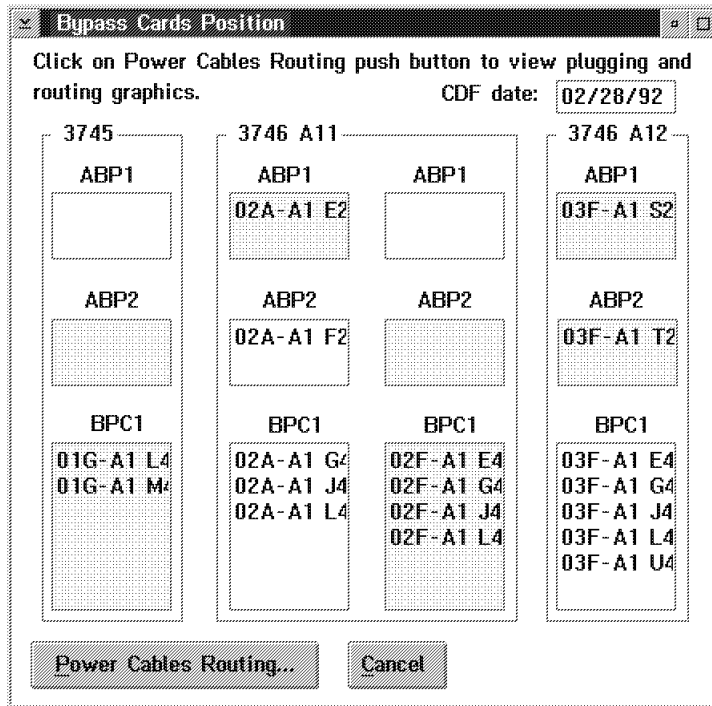

Figure 4-42. Example of "Bypass Card position" Window
Step 7. \_\_\_\_ **Plug** the cards in the Line Adapter Board(s) according to the card lists displayed (as example see Figure 4-42).
Step 8. \_\_\_\_ If you have plugged active bypass cards (ABP1 and ABP2), click on "**Power Cables Routing**" (see Figure 4-42) and go to step 9. If not, click on "**Cancel**" to return to the 3745 menu and go to step 11 on page 4-43.